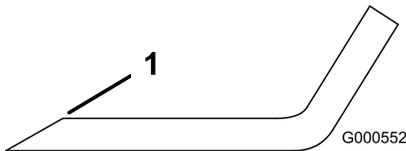

Figure 36
1. Use a file to sharpen the cutting edge at both ends of the blade (Figure 36).
Note: If the blade is not balanced, file some metal off the end of the sail area only (Figure 36).